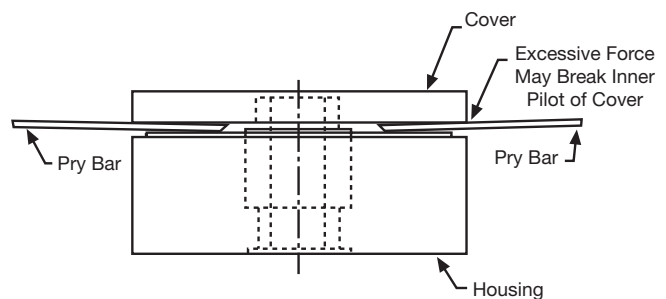

Figure 16
3. There are two locking screws (25) located on the face of the cover which lock down the reset spring screw (14) and the drive spring screw (21). Loosen these screws to relieve the pressure on the drive spring screw and reset spring screw.
4. Turn the reset spring screw (14) counterclockwise to relieve the compression on the reset spring (19).
5. Remove the sealing wax from the drive spring screw (21) and turn the screw counterclockwise to relieve the compression on the drive spring (18).
6. Remove the cover screws (27).
7. Pry off the cover (8). Use care not to break the inner pilot of the cover. (See Figure 16)
8. Remove the reset screw (14) and take out the reset spring (19), and the ball thrust (20) through the hole stamped 9.
9. Remove the reset pawl (11) by simply lifting out.
10. Remove the drive pawl (10) and the drive spring (18). This will require a little more effort because of the slight pressure on the drive spring.
11. Remove the housing (1) from the mounting surface and press out the rotor (12).
12. If clutch is manual reset, remove the reset screw (24) by turning clockwise into the housing.
13. Inspect hardened bushings (3) in housing (1) and cover (8) for excessive wear.